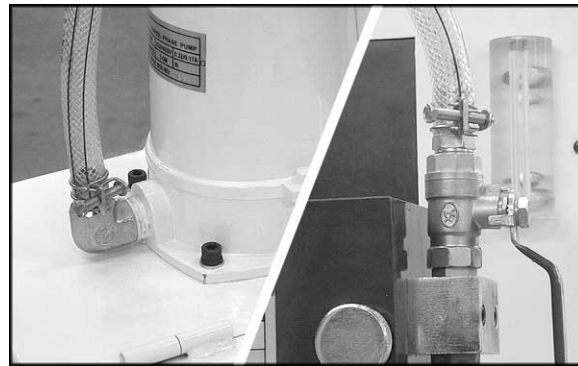

Figure 6
3. Connect the hose from the coolant pump to the fitting on the wheel guard. See Figure 6.